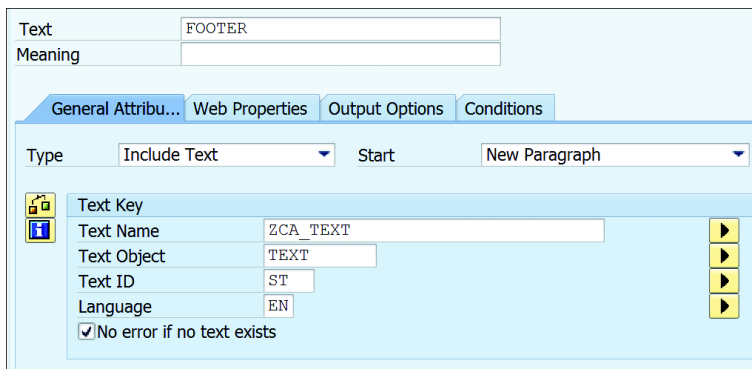

Figure 18.44 Including Standard Text
3. Similarly, in the footer window, we plan to print the footer text maintained in a standard text that we created in the previous section. To include the standard text in the footer window, create the text element and select **INCLUDE TEXT** for the text TYPE. Enter the **TEXT NAME**, **TEXT OBJECT**, **TEXT ID**, and **LANGUAGE**, as shown in Figure 18.44. The text object for standard text is **TEXT**.